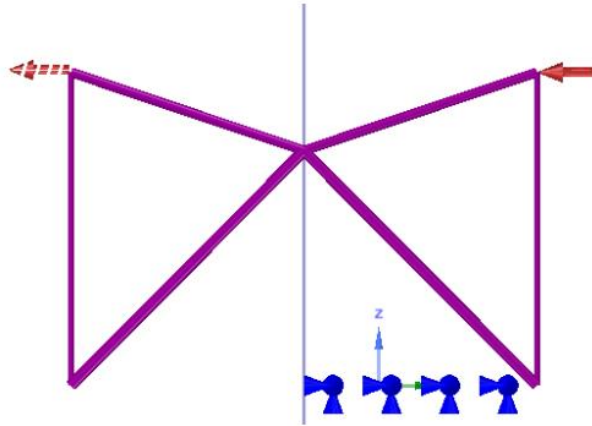

Figure 103 - Optimization using "Antisymmetric" mirroring properties
- **Antisymmetric:** load is applied simultaneously on both sides of the mirroring plane (Figure 103).